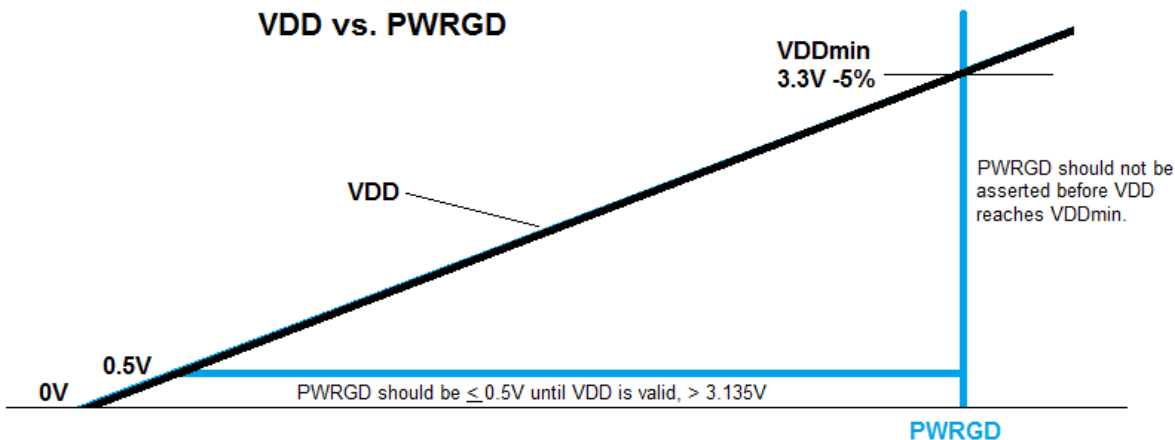

Figure 5. PWRGD and VDD Relationship Diagram
4. Once the VDD pin has reached a valid VDDmin level (3.3V -5%), the PWRGD/PWRDN# pin must be asserted High. See Figure 5.